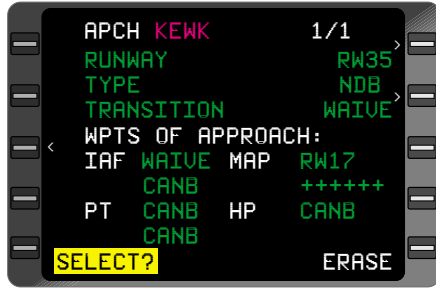

Figure 3-57
10. Approach Waypoints - REVIEW (Figure 3-57), then DEPRESS **ENTER** Key to insert **APPROACH** into Active Flight Plan and return to the **ACTIVE FLIGHT PLAN** Page.